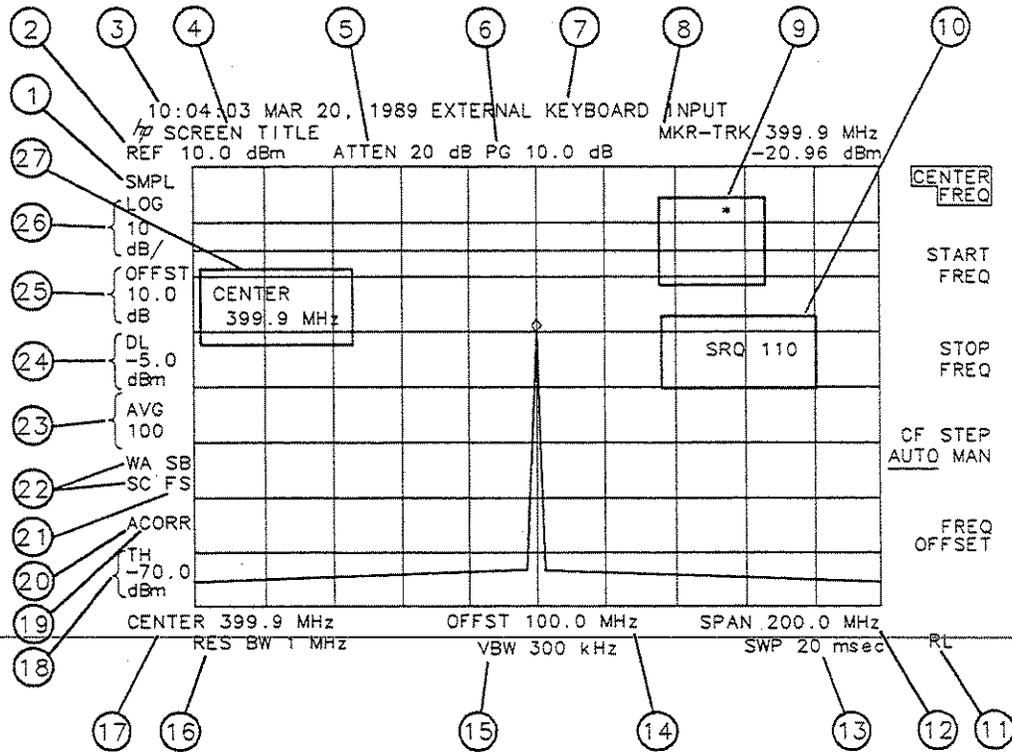

Figure 1-4. Screen Annotation
Figure 1-4 shows an example of the annotation that may appear on a spectrum analyzer screen. The screen annotation is referenced by numbers and is listed in Table 1-2. The function key column indicates which front-panel key or softkey activates the function related to the screen annotation. Refer to Chapter 3 for more information on a specific function key.
In Figure 1-4, item 21 refers to the trigger and sweep modes of the analyzer. The first letter (“F”) indicates the analyzer is in free-run trigger mode. The second letter (“S”) indicates the analyzer is in single-sweep mode.
Item 22 refers to the trace modes of the analyzer. The first letter (“W”) indicates that the analyzer is in clear-write mode. The second letter is “A,” representing trace A. The trace B trace mode is “SB,” indicating trace B (“B”) is in the store-blank mode (“S”). The trace mode annotation for trace C is displayed under the trace mode annotation of trace A. In Figure 1-4, the trace C trace mode is “SC,” indicating trace C (“C”) is in the store blank mode (“S”).